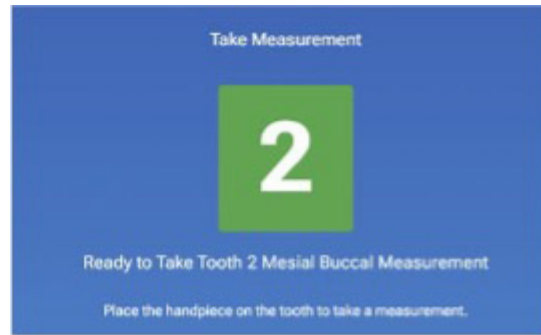

Figure 24: “Take Measurement”
5. Once the system is ready, it will automatically advance to the “Take Measurement” screen, displaying the site number where testing should begin (*Figure 24*).